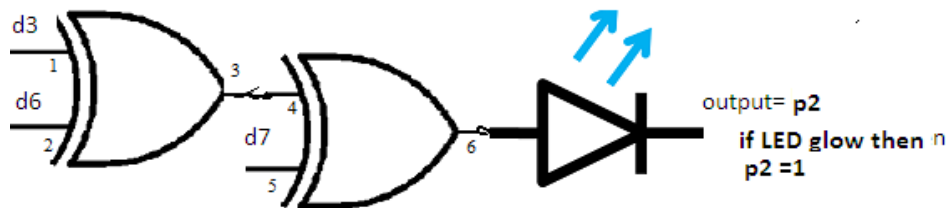

Figure 5.2: Circuit diagram for generation of P_2
- ii. Make connection as shown in figure 5.2
- iv. Check output of figure 5.2 Note the value of P_2 in table 5.2.